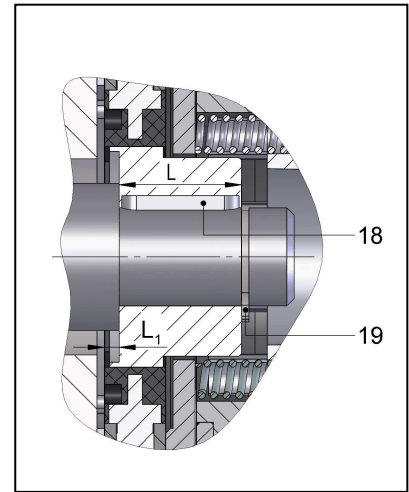

Fig. 7/1: Hub (13) position
Slip the hub (13) on a shaft (17) provided with a feather key (18) to DIN 6885, sheet 1, and secure it axially (with a shaft collar, circlip (19) or the like). Make sure that the hub (13) is set back by L_1 (see Fig. 7/1 and Table 7/1) relative to the friction surface of the friction disc (7). If a friction plate (12) or flange¹⁾ (12) (accessories) is used, mount the friction plate (12) or flange¹⁾ (12) to the mounting surface (e.g. motor end shield) (9). Push the friction disc (7) onto the hub (13). Check that you feel only little resistance when sliding the friction disc (7) along the hub (13). Then fix the field coil of the spring-applied single-disc brake to the mounting surface (e.g. motor end shield) (9) by means of the mounting screws (14). If sealing rings (16) (accessories) are used, they must be slipped on the mounting screws (14).
The M_A tightening torque (see Table 7/1) specified for the mounting screws (14) must be strictly observed. Tighten the mounting screws (14) evenly in several steps. The axial position of the hub (13) (see Fig. 7/1 and Table 7/1) must be maintained to ensure reliable torque transmission by the hub (13).